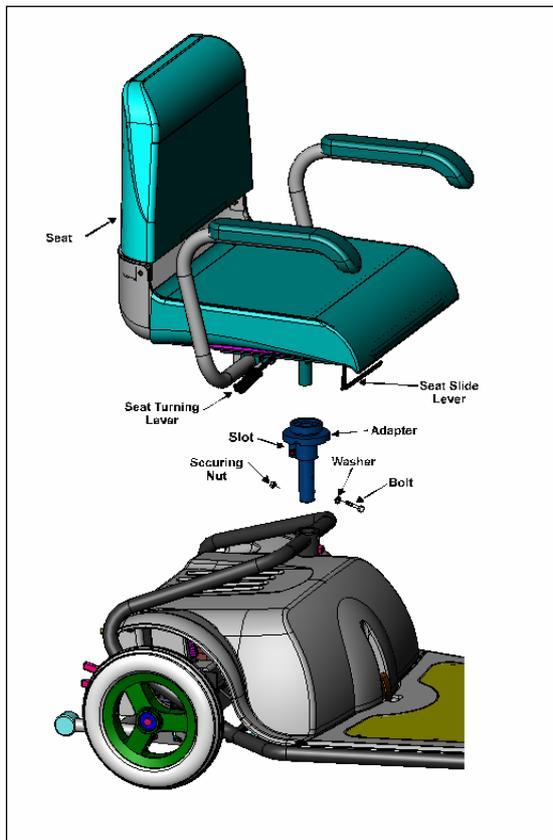

Figure 11
2.5 Seat Installation (Figure 11)
- a. In the **High** speed mode (marked by the “hare” symbol next to the **Speed Selector** switch) the maximum attainable speed is 7.5 km/h (4.6 mph) When selector is in **High Speed Mode** – Green light of switch is ON. (See Fig. 11).